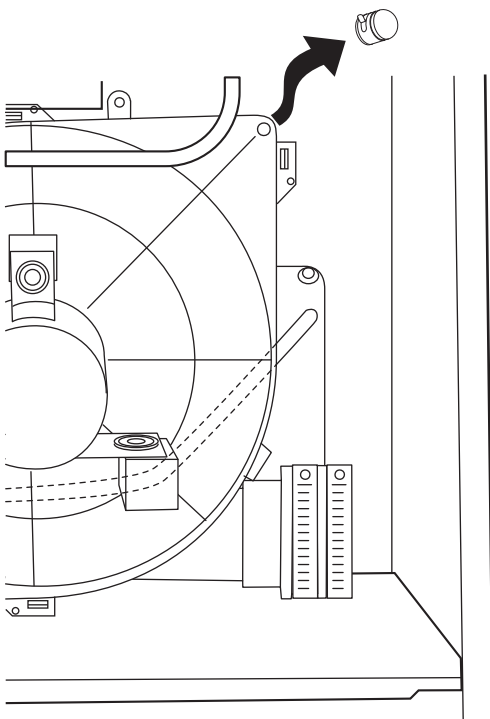

Fig. 41 - Inducer Housing Drain Tube
1. Remove upper inducer housing drain connection cap. (See Fig. 41.)
The thermostat closes the R to G and-Y1 circuits for low cooling or closes the R to G and-Y1-and-Y2 circuits for high-cooling. The R to Y1 circuit starts the outdoor unit on low-cooling speed, and the R to G-and-Y1 circuit starts the furnace blower motor BLWM on low-cooling airflow which is the true on-board CF selection as shown in Fig. 41. The R to Y1-and-Y2 circuits start the outdoor unit on high-cooling speed, and the R to G-and-Y/Y2 circuits start the furnace blower motor BLWM at high-cooling airflow. High-cooling airflow is based on the A/C selection shown in Fig. 39.